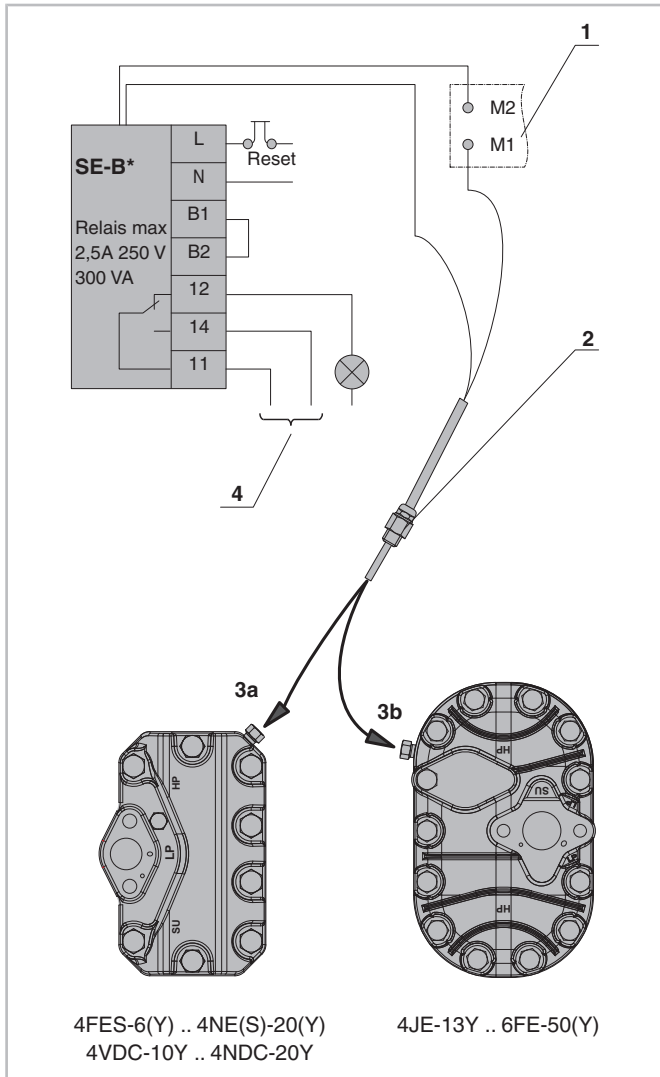

Fig. 21: Discharge temperature sensor for start unloading
- Compressors with integrated start unloading: The sensor must be incorporated in the start unloading cylinder head (see figure 21, page 20).
- Connect the instrument leads in series to the motor temperature sensors (see adhesive label in terminal box) and see figure 21, page 20).